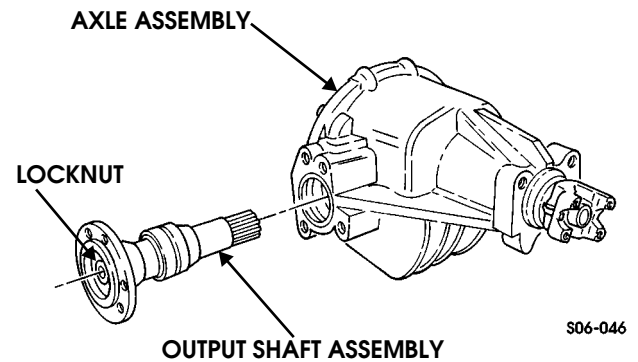

Figure 9-58: Output Shaft Assembly Removal
2. Loosen locknut on output shaft assembly (Figure 9-58).